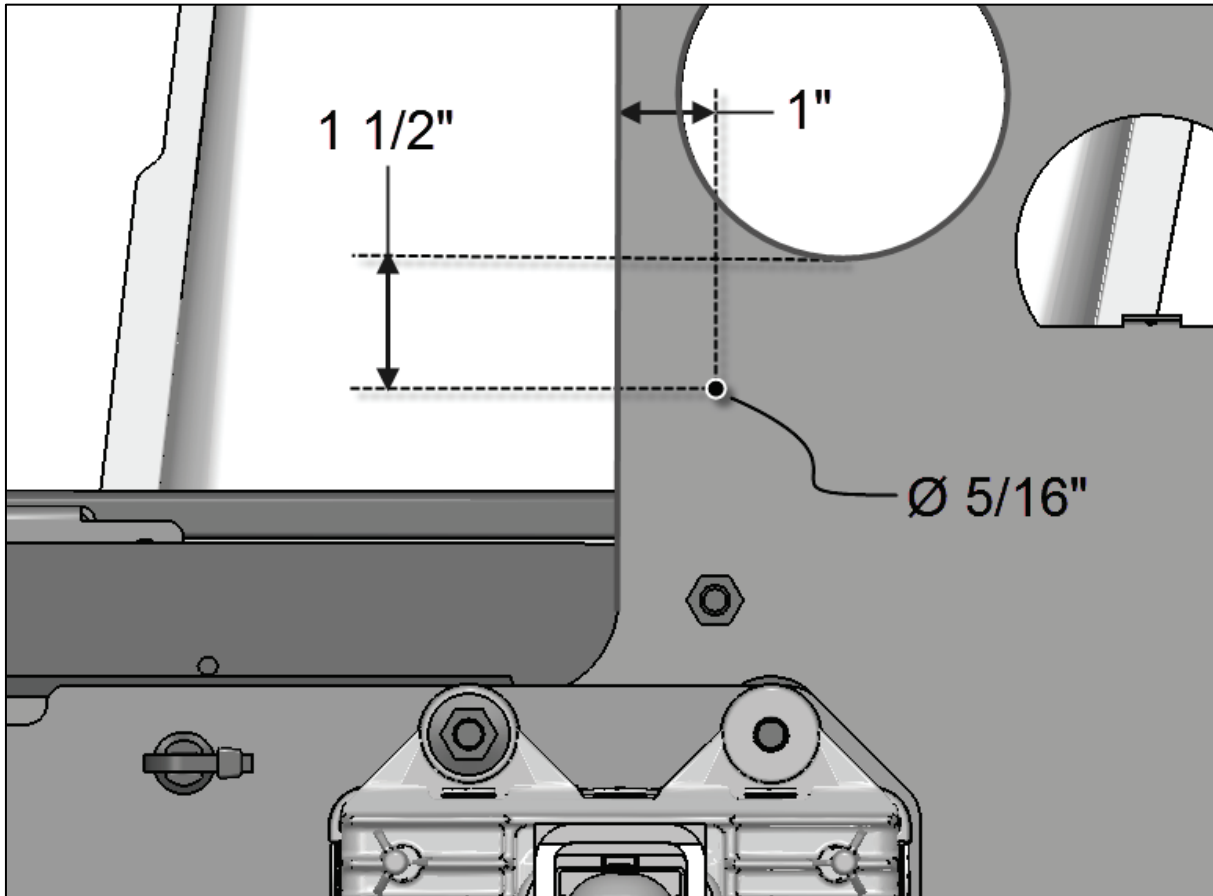

Figure 9 Hole location
14. Drill a 5/16" diameter hole to install fir tree mount cable tie 504750. Refer to Figure 9.